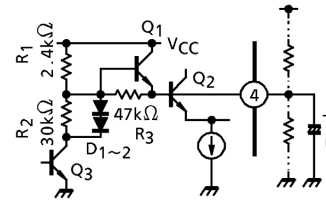

Fig.1 Internal circuit of pin④
Internal circuit of pin(4) is shown in Fig.1. Ripple filter output voltage is decided by internal resistor R₁, R₂ and Q₃, and limited by D_{1~2} and Q₃ to V_{RF} = 1.5V (typ.)